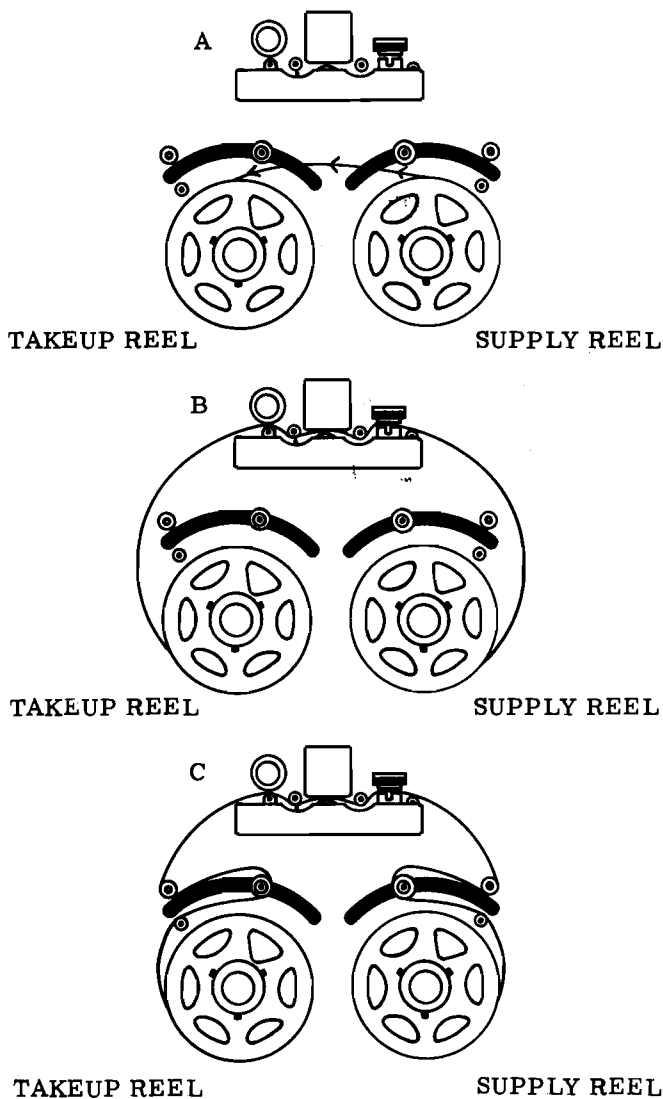

Figure XI-18. Threading Tape on Spoolers
- f. Thread the end of tape from the supply reel into the retainer slot of the takeup reel and turn the takeup reel counterclockwise 2 or 3 turns to securely fasten the tape as illustrated in A of Figure XI-18.
- b. With both hands, lift the paper tape between the reels until it is level with the read area as shown in B of Figure XI-18.
- f. Route tape to the outside of the guides on either side of the tape reels, as shown in C of Figure XI-18, and thread the tape around the tension arms. To do this, move the tape inward, one side at a time, with index finger moving between the tape guides. Loop the tape over the follower arm; the follower arm may be moved toward the side of the spooler as the tape is looped over it.
3. Thread the tape through the tape guides above the supply reel and around the tension arm as illustrated in C of Figure XI-18.